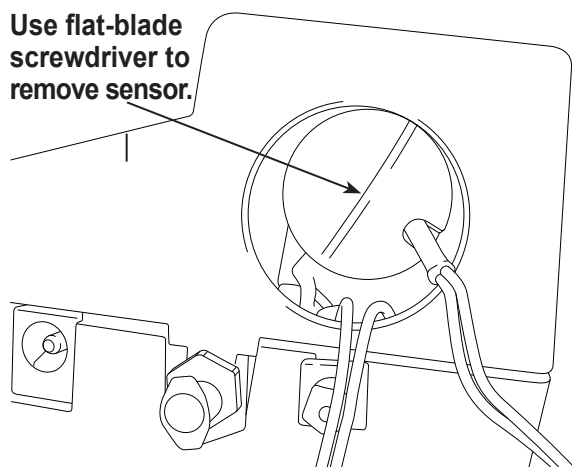

Figure 25
7. Move the cap and harness aside. Hold the lead from the sensor, and use a flat-blade screwdriver to unthread and remove the oxygen sensor. See Figure 25.